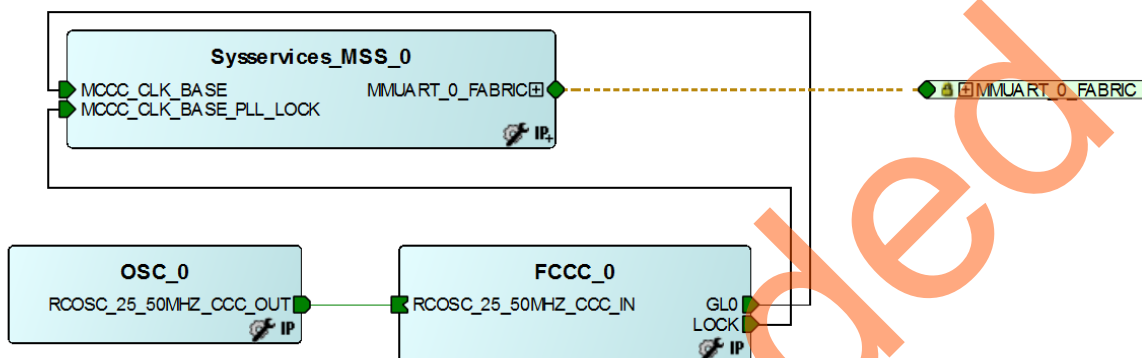

Figure 20 • Syservices SmartDesign
5. Click **Auto Arrange Instances** to arrange the instances and click **File > Save**. Libero top-level design is displayed as shown in Figure 20.